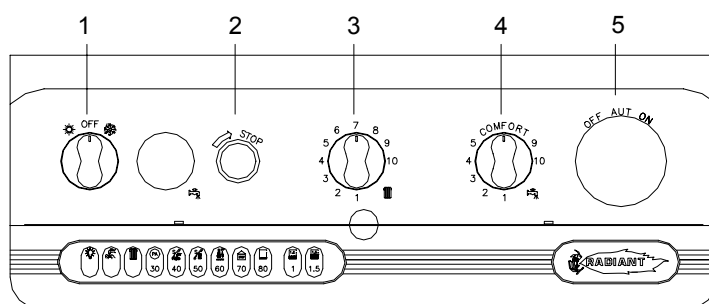

Fig. 1
- ⇒ **The anti-freeze system will come into operation only if the boiler is in the winter (❄) or summer (☀) position (with selector switch 1 in fig. 1 turned to the summer or winter position) and the gas supply turned on. The manufacturer can accept no responsibility for damage to the boiler caused by lack of observation of these requirements.**
LEGEND (see fig. 1)
It may be necessary to repeat the procedure a few times to purge air from the pipes. To repeat the ignition procedure press release button 2 (see fig.1) and then try the ignition procedure once again. If the boiler does not start, press the reset button 2 (see fig. 1). **IMPORTANT** should the boiler fail to ignite wait 3 minutes before pressing button again.
It may be necessary to repeat the procedure a few times to purge air from the pipes. To repeat the ignition procedure press release button 2 (see fig. 1 pag. I) and then try the ignition procedure once again. If the boiler does not start, press the reset button (see fig. 1 pag. I). **IMPORTANT** should the boiler fail to ignite wait 3 minutes before pressing button again.
Summer-winter use (see fig. 1 pag. I).
The heating temperature is regulated by turning knob 3 (see fig. 1 pag. I).
The hot water temperature is regulated by turning knob 4 (see fig. 1 pag. I).